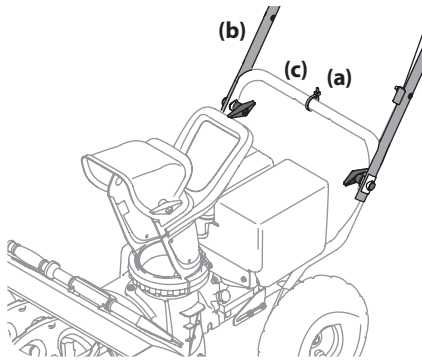

Figure 2-9
- Slide one of the loosely fitted cable ties (a) from the right side of the lower handle (c) up to the cross member of the lower handle (c). Leave the second cable tie in place on the right side of the lower handle (c). See Figure 2-9.
- IMPORTANT:** It will be necessary to lift the upper handle (b) up and position it over the lower handle (c), aligning the holes where the wing knobs were removed. See Figure 2-9.